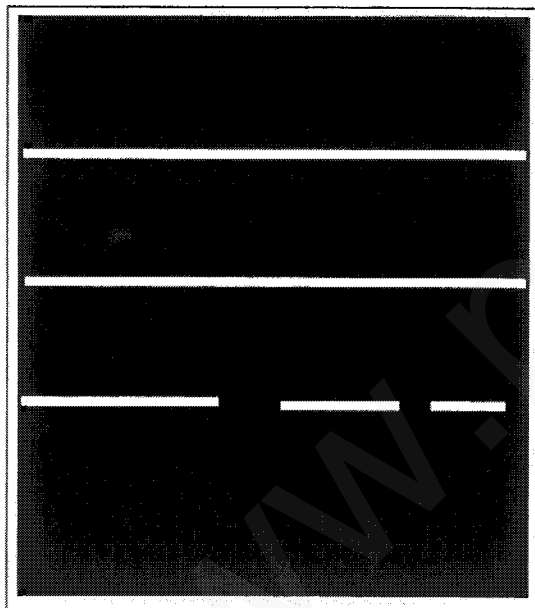

Figure 2. Horizontal deletions
- The deletions extend horizontally across the short dimension of the page (Figure 2).